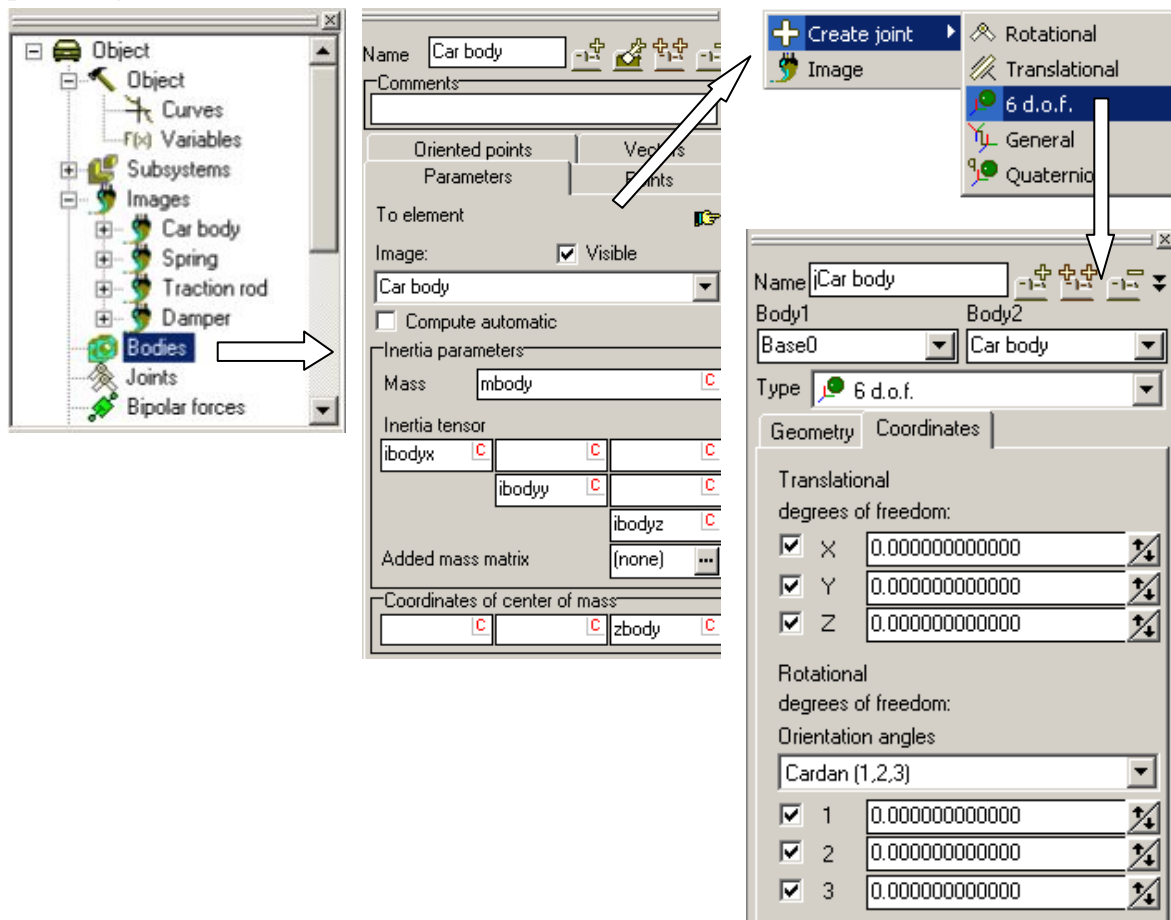

Figure 2.17. Adding car body and its joint
2. Fill out the inspector window like Fig. 2.17: choose the corresponding image from the list, set inertia parameters as identifiers: